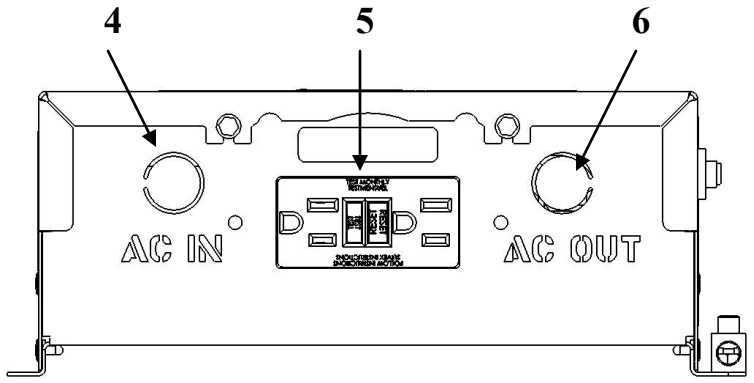
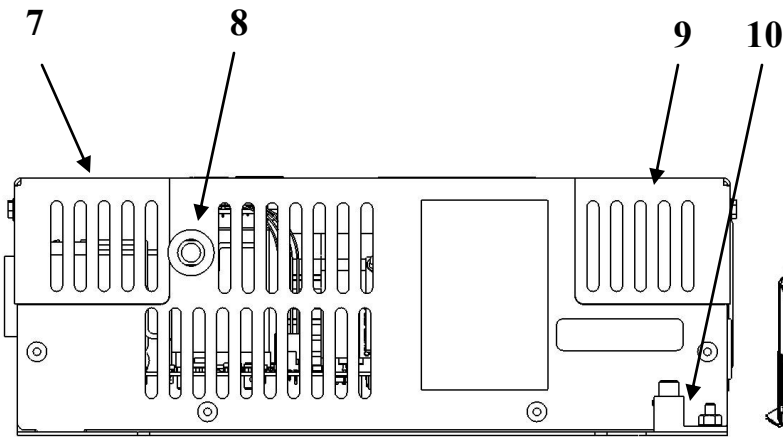

Figure 3 PD1200 Series Inverter (AC End View)
Figure 4 PD1200 Series Inverter (Side View)
3. Use the inverter as a drill guide by placing it flush against the mounting surface and marking the appropriate hole locations in the mounting surface (see Figure 4). Horizontal mounting of the PD1200 series inverter is recommended (see Figure 3), although it can be mounted in a vertical position that provides unobstructed ventilation to the fan and vent holes.